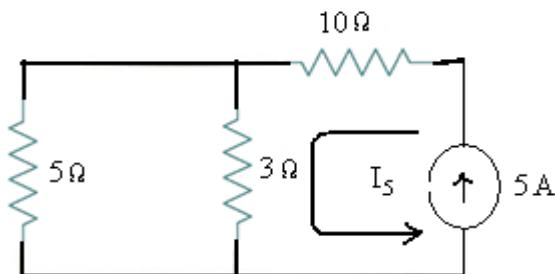

Fig.2
**Solution:** To find out the Norton's equivalent ckt we have to find out  $I_N = I_{sc}$ ,  $R_N=V_{oc}/I_{sc}$ . Short the  $1.5\Omega$  load resistor as shown in (Fig 2), and Calculate / measure the Short Circuit Current. This is the Norton Current ( $I_N$ ).
Similarly the current  $I_5$  in the resistance of  $3\Omega$  due to the current source of  $5A$  alone with voltage source of  $20V$  short circuited [ as shown in the figure.2 below ] is given by :